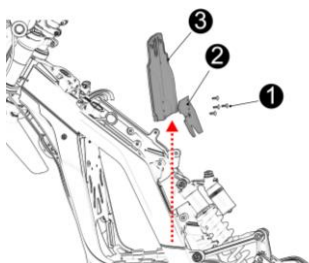

Fig 49
11.20 Dismount back shield of battery(see Fig 49)